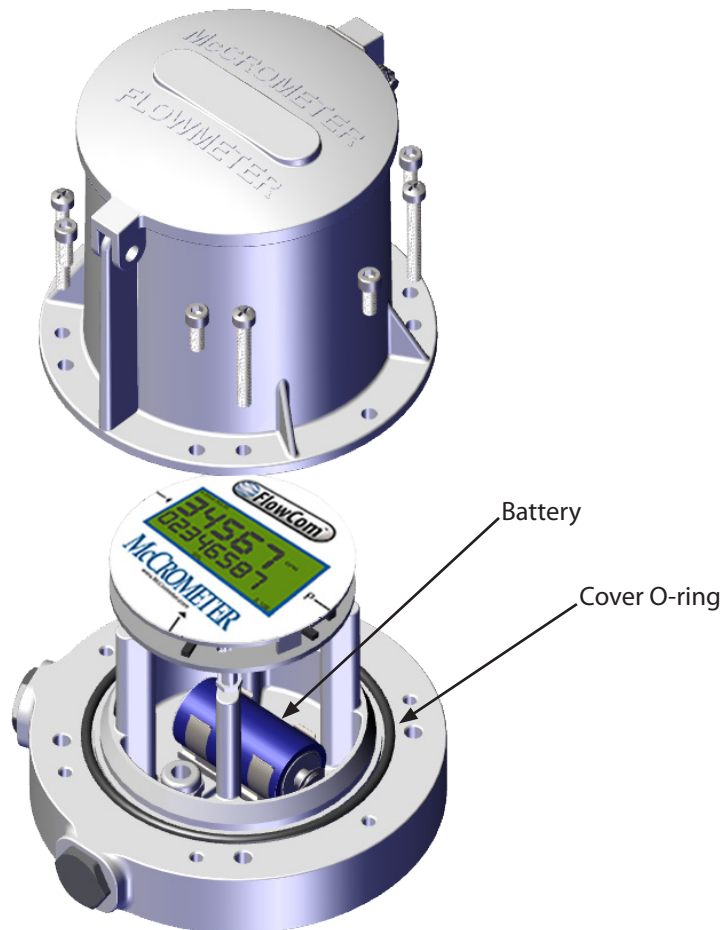

Figure 20. Canopy Enclosure Removed For Battery Replacement
8. Apply O-ring lube to the cover O-ring (Figure 20).